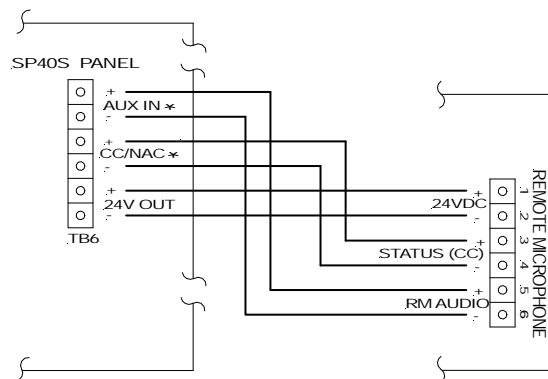

Figure 1:
Figure 1 shows the proper wiring connections for connecting the *SPRM* to the *SP40S*.
2. Attach the 6 wires as shown in the wiring diagram (Figure 1). Be sure to use the specified wire.